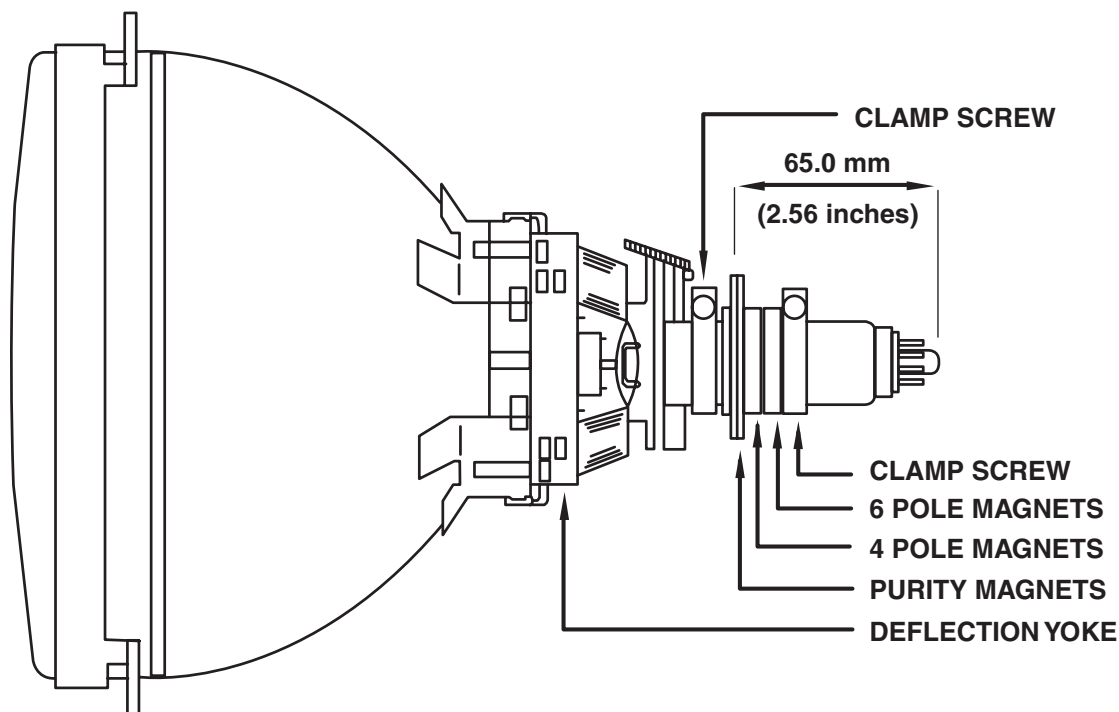

Fig. 3
1. Check correct location of all neck components. (Refer to Fig. 3)
STATIC CONVERGENCE ADJUSTMENT (Refer to Fig. 3 and 4)
IMPORTANT: Before proceeding, make sure the location of the convergence magnet assembly on the neck of the CRT is as shown in Fig. 3. The rear edge of this assembly must be positioned 65 mm from the tip of the CRT base. If not properly positioned, convergence adjustment may be difficult, if not impossible.